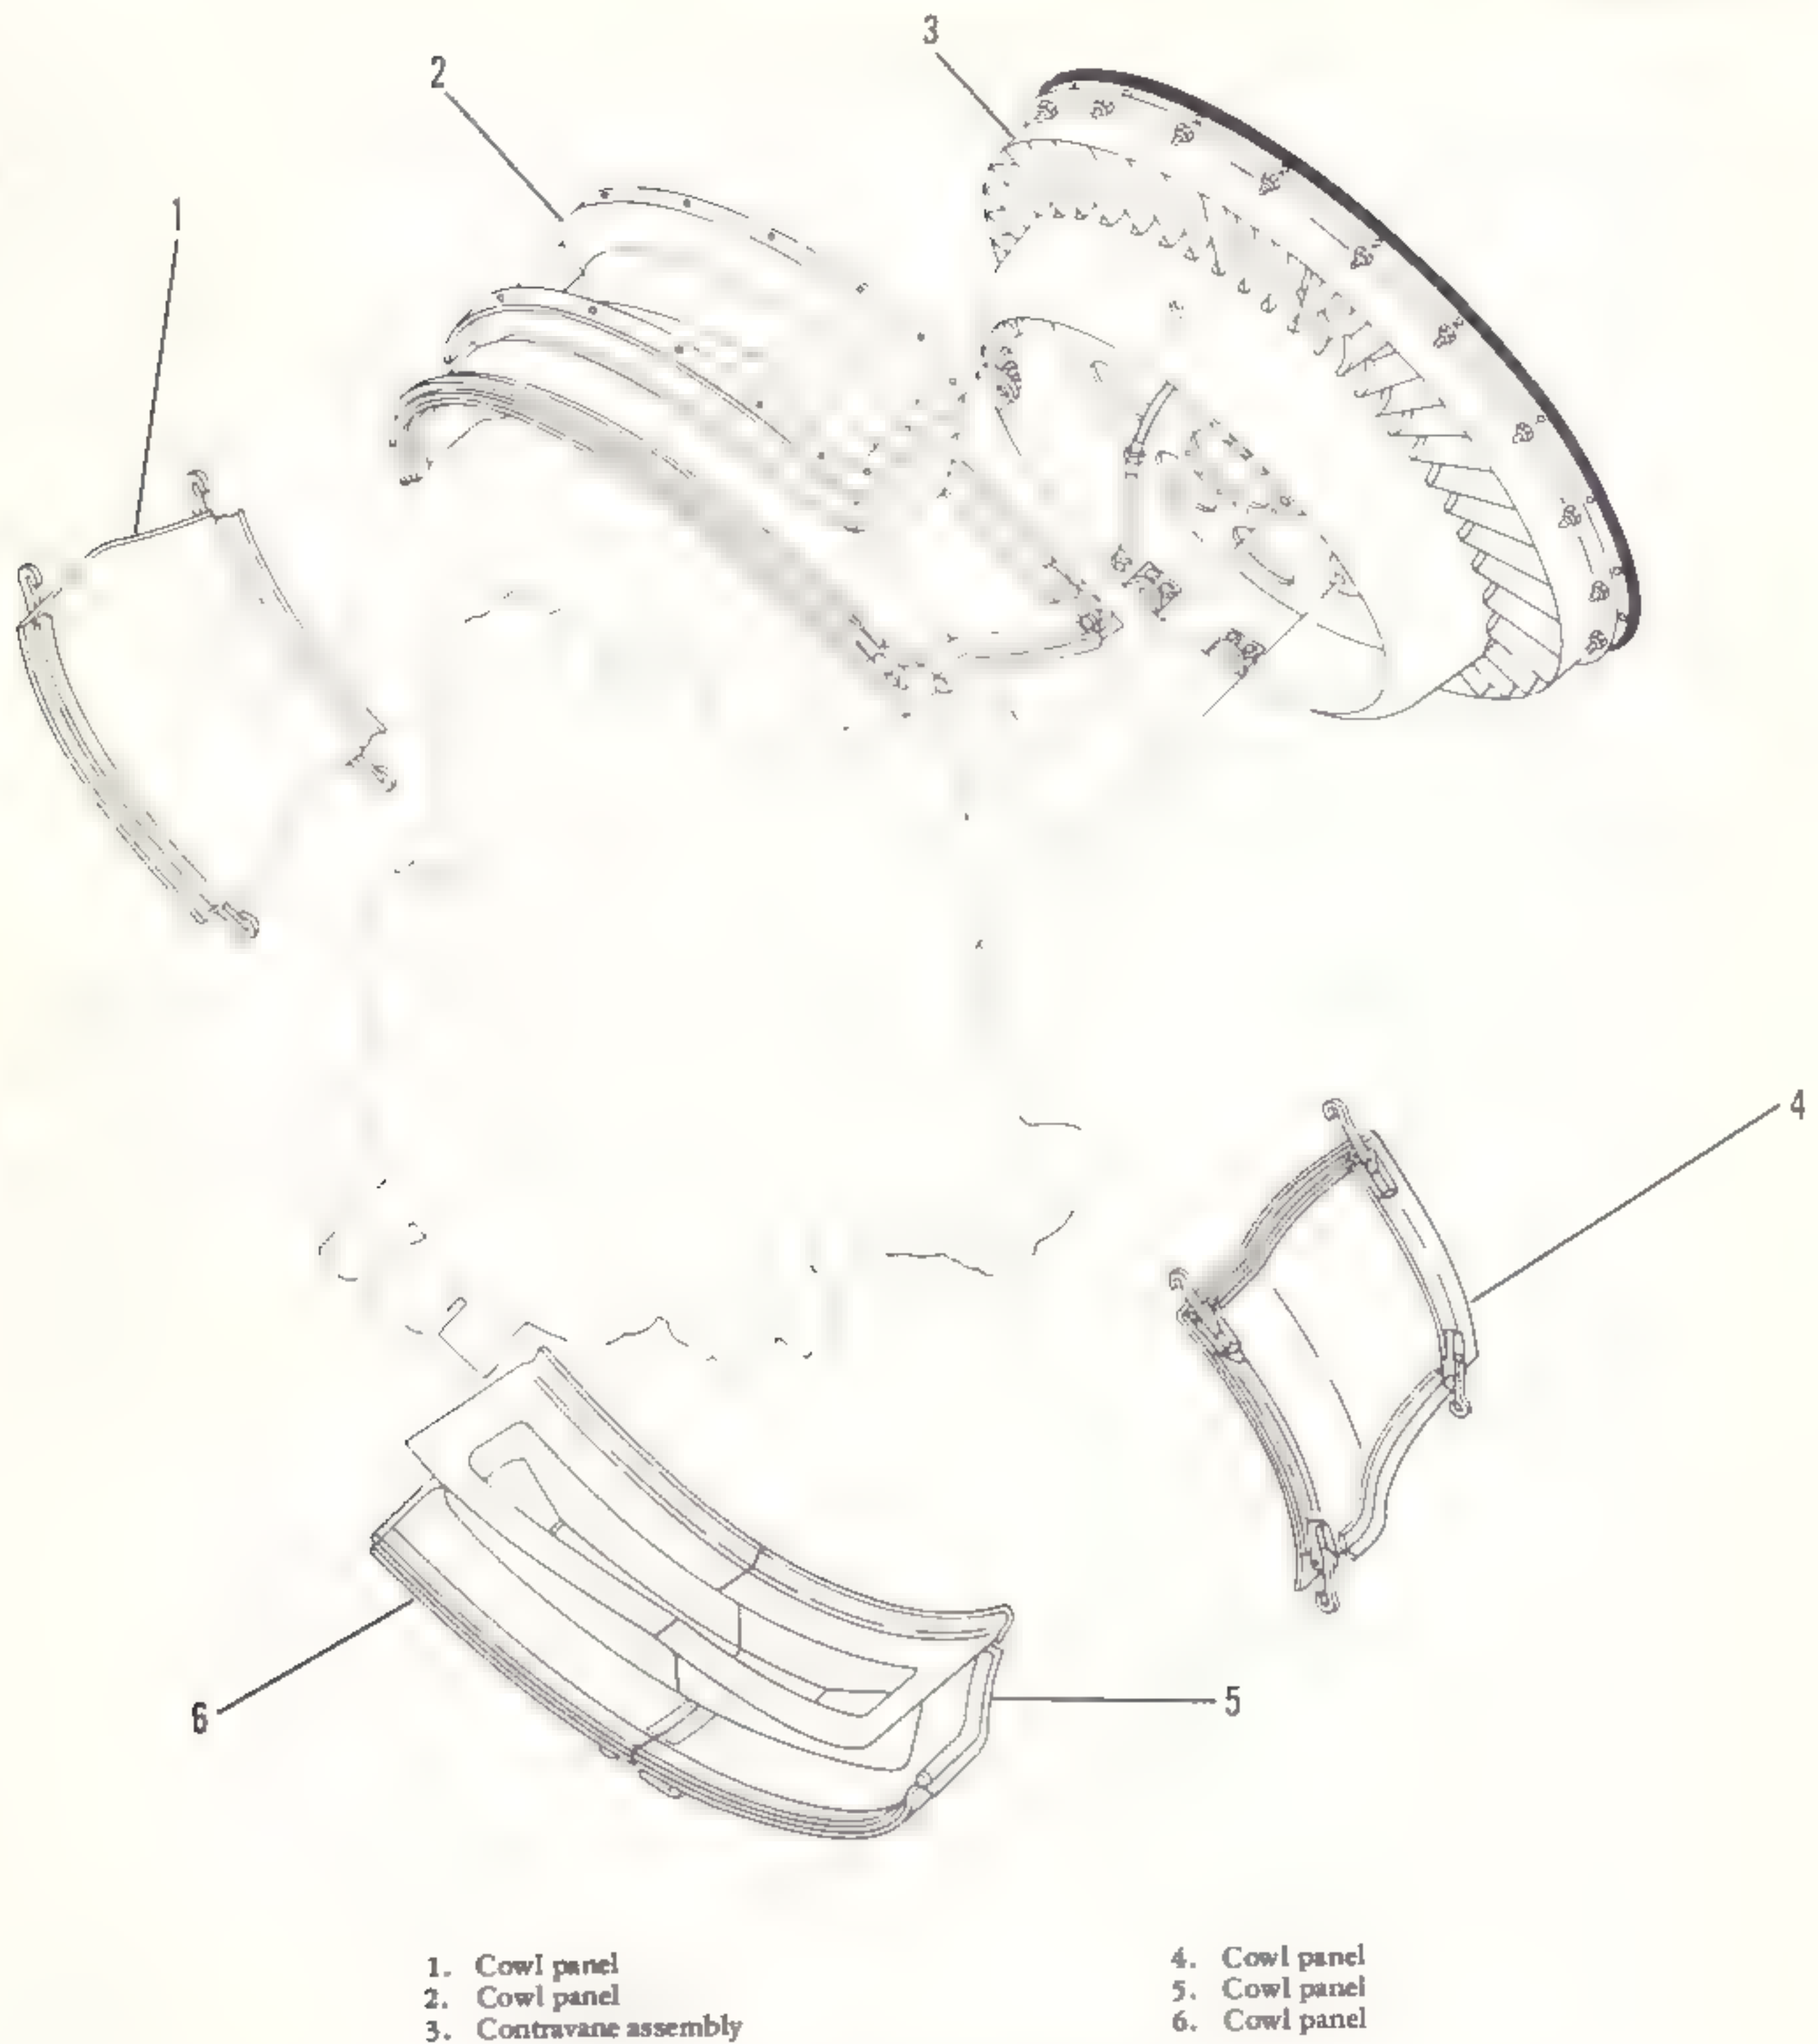

Figure 5-77. Contravane assembly and cooling panel assembly
5-183. *Cooling Panel Assembly.* The cooling panel assembly consists of five cowl panels (1, 2, 4, 5, and 6, figure 5-77). The cooling panel assembly directs the airflow produced by the fan to a specific area. The forward edge of the cooling panel assembly is supported by the contravane assembly, and the aft edge is supported by cowl seal channels on the engine.
c. Unfasten latches securing cowl panels (1 and 4, figure 5-77) to cowl panels (2, 5, and 6).
e. Unfasten latches securing cowl panels (5 and 6) together. Remove cowl panel (5) only.
Cowl panel (6, figure 5-77) must be installed before power package is hinged up or before power package is installed. (Notify direct support maintenance unit.)